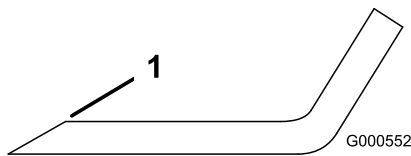

Figure 65
- Use a file to sharpen the cutting edge at both ends of the blade (Figure 65).
Note: If the blade is not balanced, file some metal off the end of the sail area only (Figure 65).